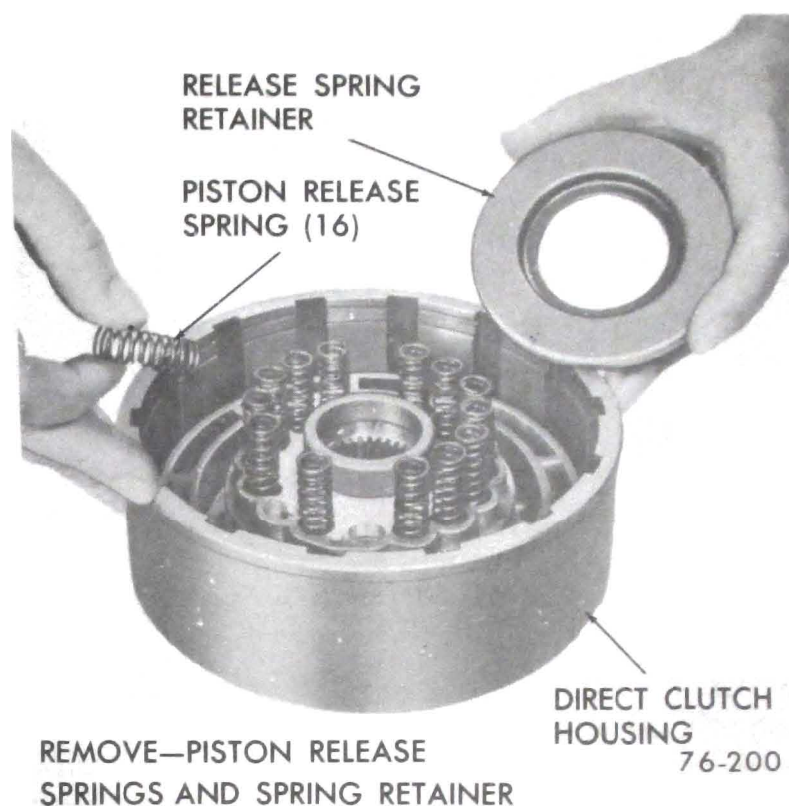

Figure 76-200
6. Remove retainer and fourteen (14) piston release springs. Keep these springs separate from forward clutch release springs. See Figure 76-200.